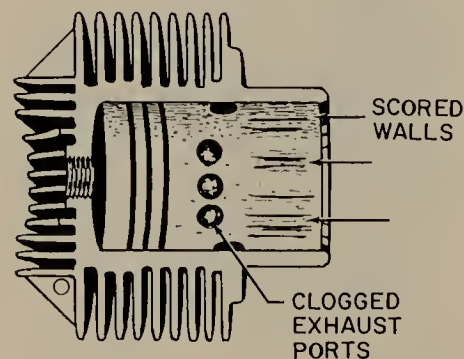
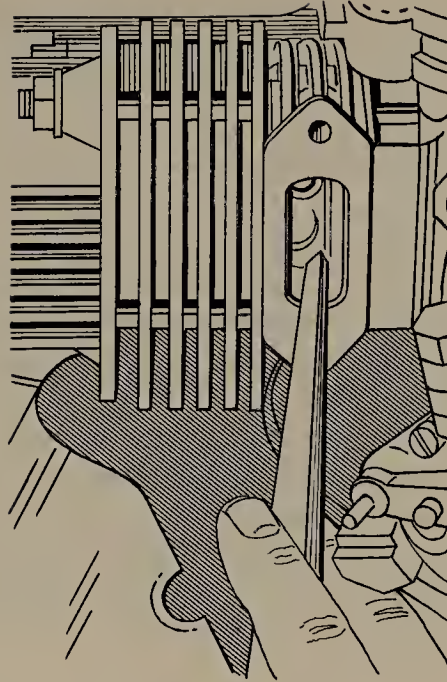
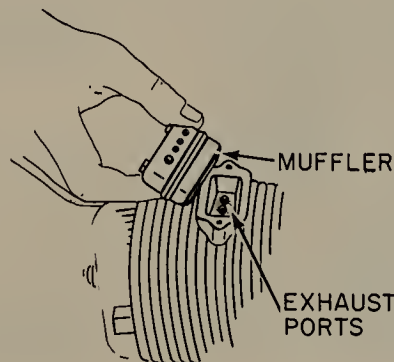

FIGURE 10.7 Cutaway view of cylinder head showing scored walls and clogged exhaust ports, caused by carbon deposits in the exhaust ports.
FIGURE 10.8 Use a hardwood scraper or screwdriver to remove carbon from the exhaust ports.
FIGURE 11.4 Removal of muffler to inspect exhaust ports of a two-cycle engine.
10.4 Engine Starts but Lacks Power. A common cause of this trouble, in two-cycle engines, is clogged exhaust ports. Carbon that forms as a result of the combustion action in the cylinder often cakes up around the exhaust ports, as shown in Fig. 10.7. As this buildup continues, the engine is less and less able to exhaust burned gases and thus less fresh charge can enter the engine cylinder. This means that engine power is lost. After some time, if the accumulations are not removed, the engine will barely run. To remove the accumulations, take off the exhaust muffler. Turn the engine flywheel so the piston covers the exhaust ports. Then use a screwdriver or a hardwood scraper, as shown in Fig. 10.8, to carefully scrape away the carbon accumulations. The piston will keep particles from falling into the cylinder, where they could cause trouble. Be extremely careful to avoid scratching the piston. Blow out all loose particles from the ports. This procedure is described in more detail in a later chapter.
11.6 Cleaning Muffler and Exhaust Ports. On two-cycle engines, the exhaust ports tend to become clogged with carbon accumulations, as shown in Fig. 10.7. These accumulations reduce the ability of the engine to exhaust and can sharply reduce engine power. They can also cause engine overheating which will result in other engine damage. To check for carbon accumulations, remove the muffler, as shown in Fig. 11.4. Mufflers come in a variety of sizes and shapes, but practically all are held in place by cap screws and a gasket. Removing the screws permits you to inspect the exhaust ports.
If the ports are clogged, rotate the crankshaft until the piston moves down enough to cover the exhaust ports. This protects the engine from dirt and carbon which could otherwise fall into the engine and cause damage. Use a wood stick to scrape off the carbon, as shown in Fig. 10.8. Do not use a metal tool that could scratch the piston or damage the edges of the exhaust ports. Hold the engine so